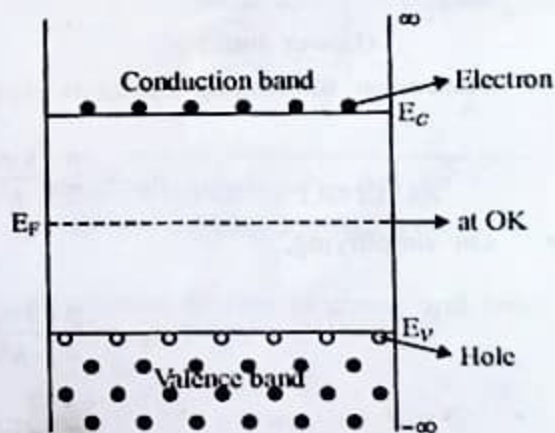

FIG. 2.7(1) : ENERGY BAND DIAGRAM FOR AN INTRINSIC SEMICONDUCTOR AT $T > 0K$
- The equation (13) shows the density of electrons in the conduction band for an intrinsic semiconductor.
- The density of holes n_h can be calculated by integrating the product of density of states $Z(E)$ dE and the probability function for a hole $[1 - f(E)]$ between the limits from the bottom of the valence band ($-\infty$) to the top of the valence band E_v as shown in Fig. 2.7(1).